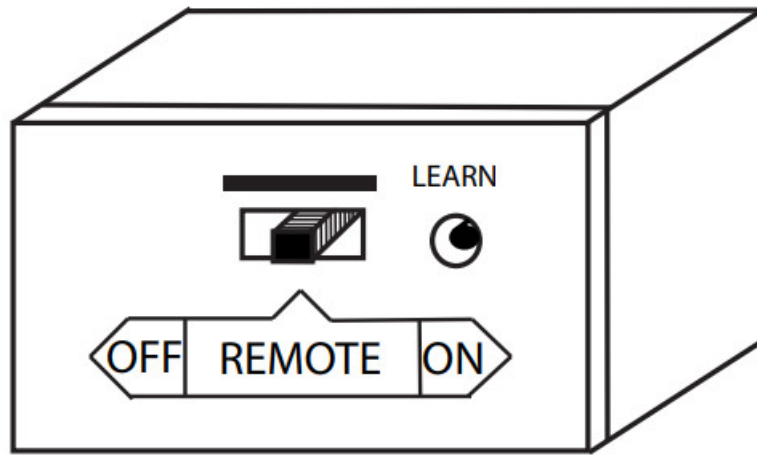

Fig. 16 Learning
- Slide the 3-position button on the remote receiver to the ON position (Fig. 16). The main gas flame (fire) should light.